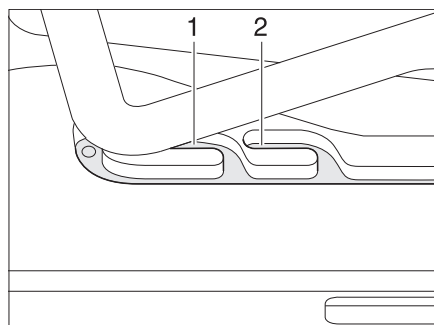
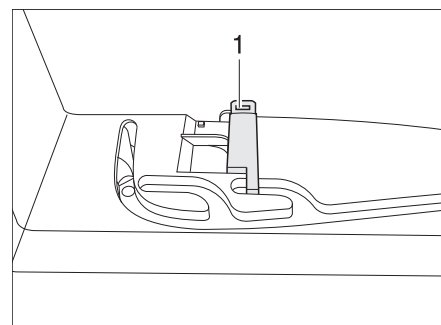

Fig. 46 Heki skylight in ventilation position
Fig. 47 Ventilation position locking mechanism
The Heki skylight can be put in two ventilation positions: Bad weather position (Bild 46,1) and central position (Bild 46,2). Depending on the model, the skylight can be locked in the central position with the latch (Bild 47,1).
- Push the bar slightly upwards and into the selected guide (Bild 46,1 or 2) and lock if necessary.